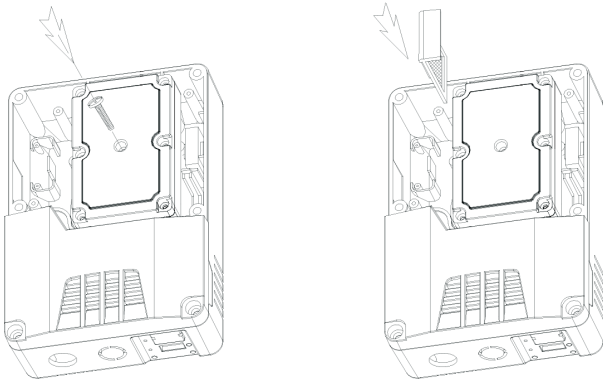

Fig. 14.
4. Fix the sensor module and insert the air inlet filter into the upper left slot of the module (see Fig. 14).